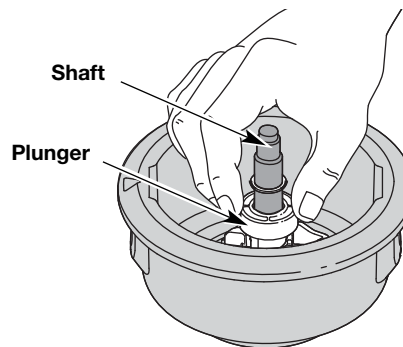

Fig. 21
5. Clean the shaft and the inner surface of the outer spool. To clean the shaft underneath the plunger, press down on the plunger (Fig. 21). Remove any dirt or debris from the shaft.